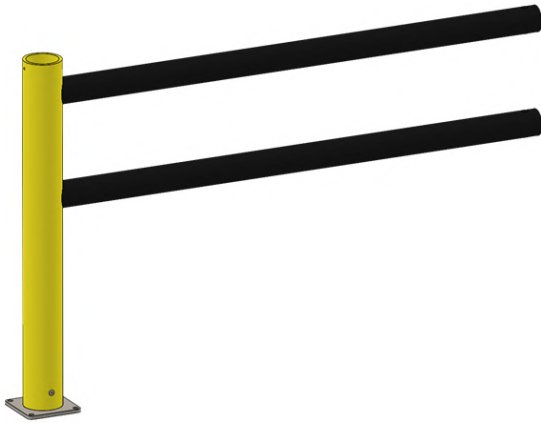
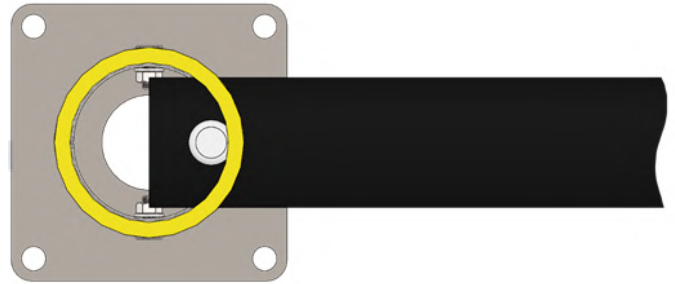

Figure 4. Installation of section pipe into the finite post.
Figure 5. The proper arrangement of the section pipe inside the finite post (top view) and its fixation.
1. Insert the black section pipe into the finite post (Fig. 4). The axes of the through circular 20 mm holes in the black pipe both here and later on must be placed vertically. The installation of section into the post must be carried out so that the circles of through 20 mm holes in the black pipe of the section are located tangentially to the inner surface of the pipe of the post (shown in Fig. 5). Fix the upper section element inside the finite post with a fixing pipe through a 20 mm hole